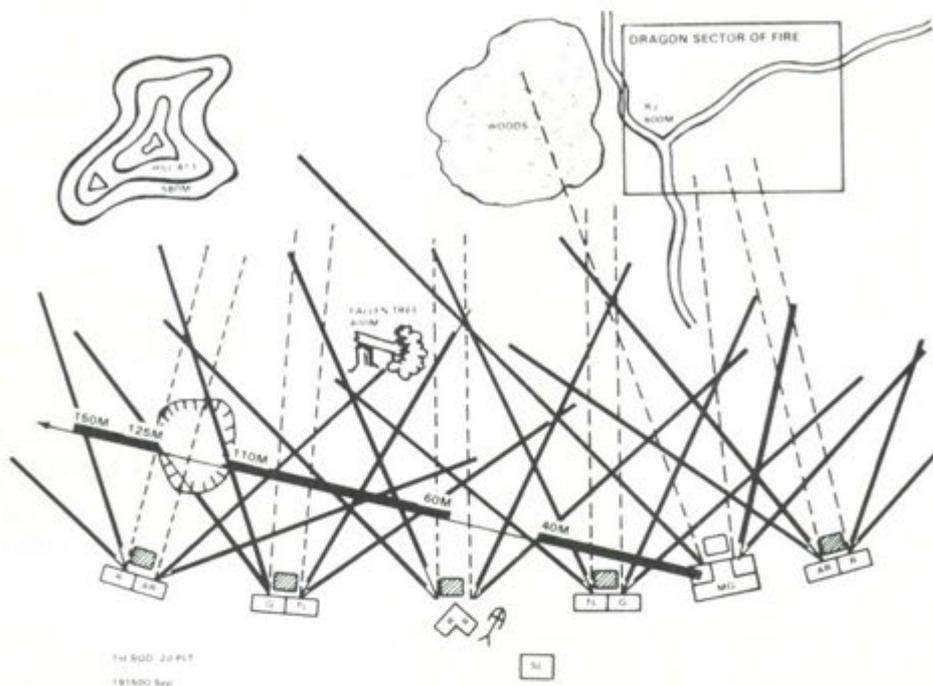

Figure 1. Infantry squad sector sketch.
- (1) rifle--R
- (2) automatic rifle--AR
- (3) grenade launcher--G
- a. Sector sketch for an infantry squad (figure 1).